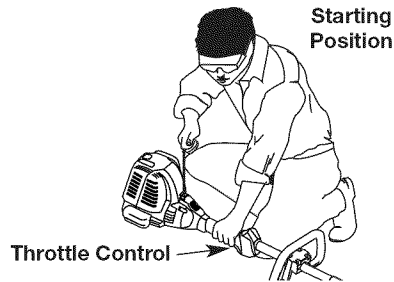

Fig. 8
WARNING: Avoid accidental starting. Make sure you are in the starting position when pulling the starter rope (Fig. 8). To avoid serious injury, the operator and unit must be in a stable position while starting.
4. With the unit in the starting position, **do not squeeze the throttle control** (Fig. 8). Pull the starter rope until unit starts.
4. With the unit in the starting position (Fig. 8). Place the electric starter into the back of the unit. Refer to Operation section of the Electric Starter operator's manual.
5. **Do Not squeeze the throttle control**, press and hold the electric starter ON (I) button for 2 second intervals until unit starts.